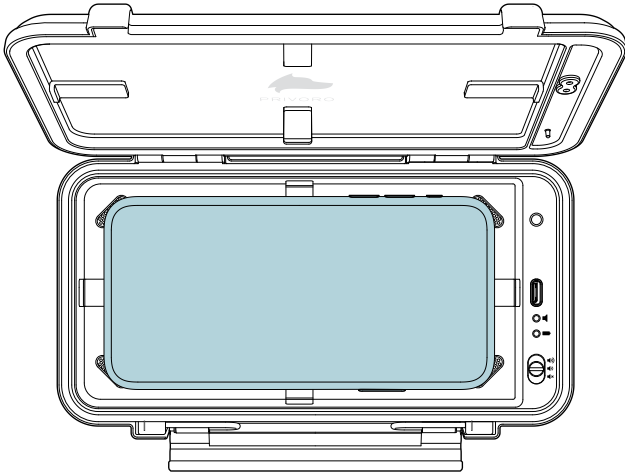

Figure 5: Place your smartphone
2. **Place your smartphone in the center of the interior** (Figure 5). Your smartphone should rest evenly on the four pads.